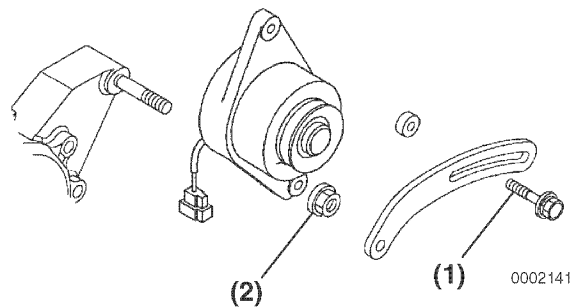
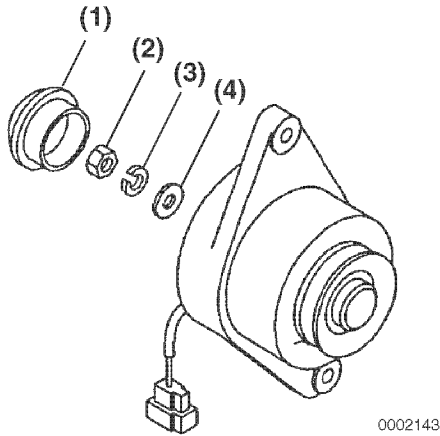

Figure 11-23
Figure 11-24
3. Remove the V-belt adjuster from the dynamo bolt (**Figure 11-23, (1)**).
4. Remove the nut (**Figure 11-23, (2)**) from the gear case stud. Remove the dynamo.
1. Remove the rear cover (Figure 11-24, (1)).
2. Remove the nut (Figure 11-23, (2)), lock washer (Figure 11-24, (3)), and flat washer (Figure 11-24, (4)).